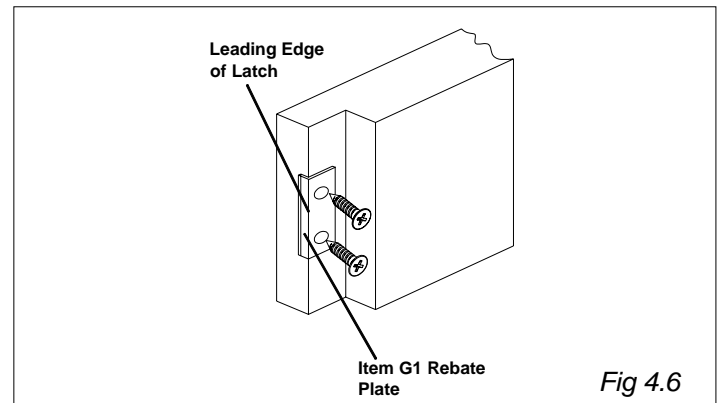

Fig 4.6
- 5) If fitting to a rebate door fit the optional Rebate Plate ( Pack G) as shown in **Figure 4.6**.